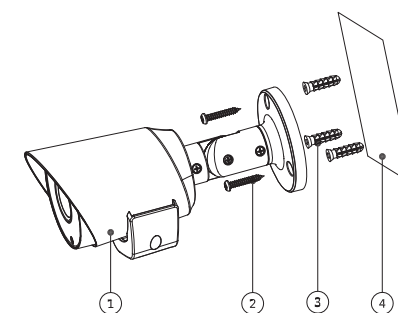

Figure 3-1
- If it is cement wall, first it needs to install expansion bolt ③ (the mounting hole sites of expansion bolts need to be in accordance with those of the bracket), and then install the bracket, which is shown in Figure 3-1.
- If it is wooden wall, you can skip the first step, use self-tapping screw ② to install the bracket directly.